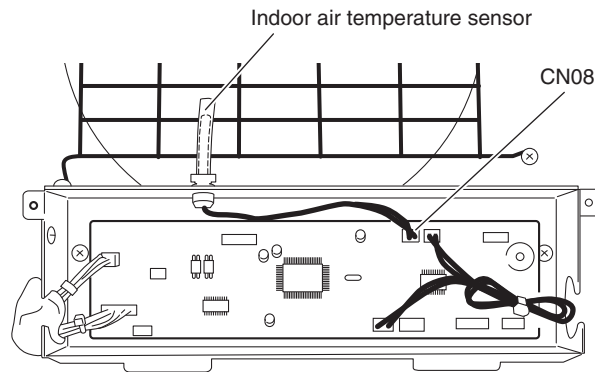

Fig.10
- (1) Disconnect the connector CN08 (ROOM 2P) in the control box and remove the indoor air temperature sensor. (Fig. 10)